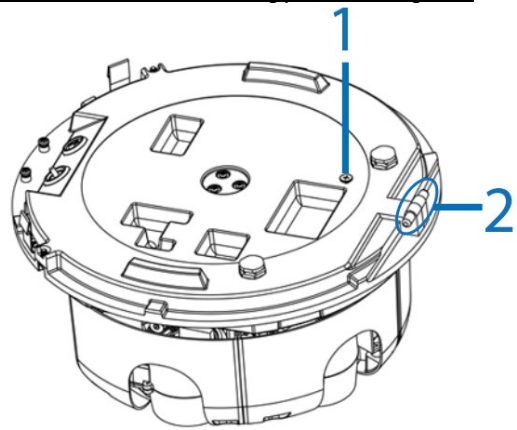
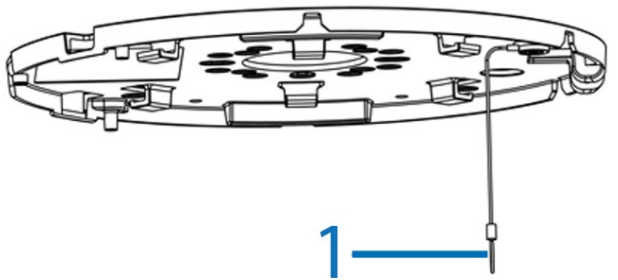
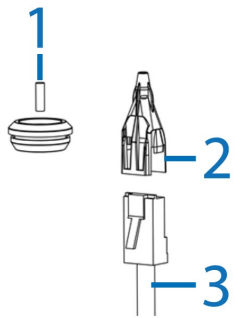
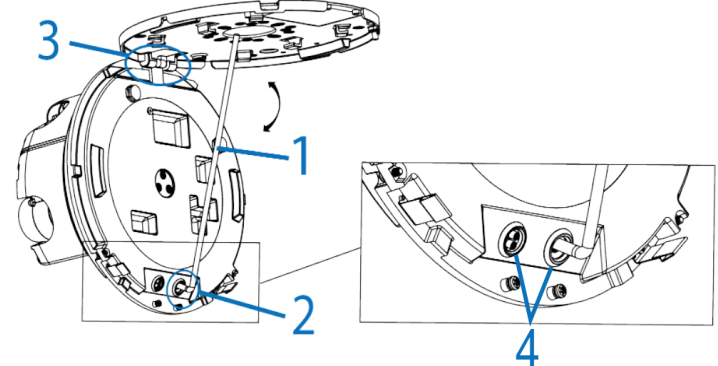

Figure 6
Figure 5
Figure 7
Figure 9
8. Insert the 'hinge pins' (2) (Figure 6) on the camera module lens into the 'hinge knuckle' on the mounting plate. **'3' in Figure 9 identifies how the camera lens module and mounting plate attach together.**
10. Insert the RJ-45 cable (3) (Figure 7) into the insert tool (2) (Figure 7) remove the rubber grommet (2) (Figure 9) from the camera lens module.
11. Pierce the rubber grommet (1) (Figure 7) by passing the insert tool and cable through the center of the rubber grommet.
7. Hold the camera lens module up to the mounting plate and insert the 'loop' on the safety lanyard (1) (Figure 5) that is attached to the mounting plate to the screw (1) (Figure 6) on the camera lens module.
12. Pass the insert tool and cable (1) (Figure 9) through the rubber grommet hole (2) (Figure 9) on the camera lens module.
WARNING: Ensure that both rubber grommets (4) (Figure 9) are securely inserted into the camera lens module before operation.
- Ensure that both rubber grommets (4) (Figure 9) are securely inserted into the camera lens module before operation.